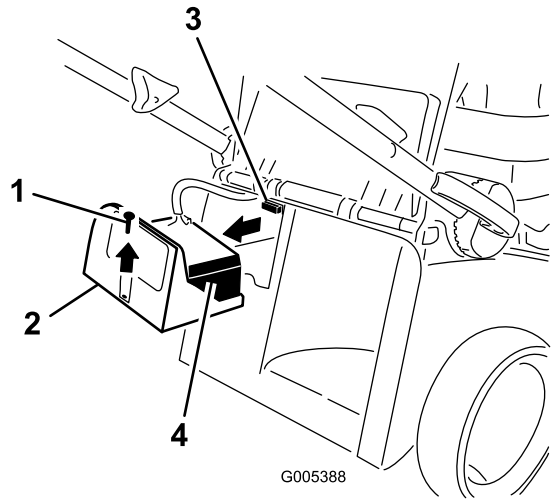

Figure 8
1. Remove the battery cover and the battery and locate the fuse holder (Figure 8).